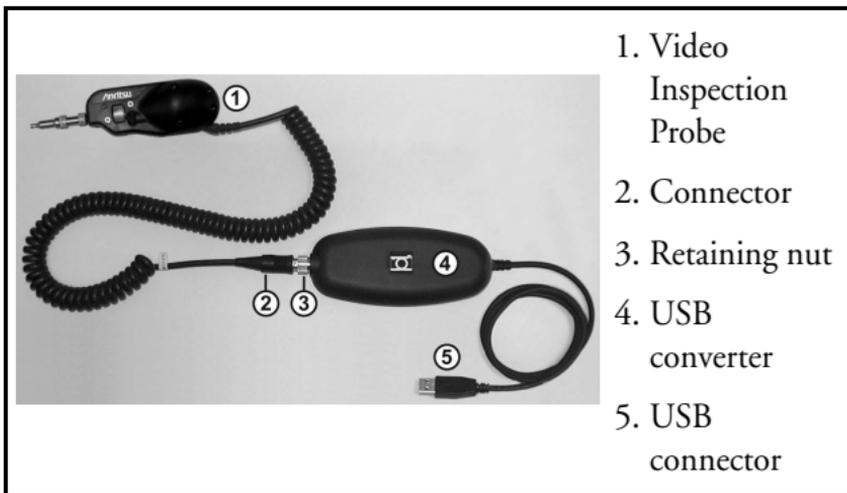

Figure 5-7: VIP Connected to USB Converter
1. Align the connector on the coiled cord of the VIP with the receptacle on the USB converter (see items 2 and 4 in Figure 5-7 on page 5-7). When properly aligned, the connector slides into the receptacle.
2. Use the retaining nut (see item 3 in Figure 5-7 on page 5-7) on the connector to secure it to the USB converter (see item 4 in Figure 5-7 on page 5-7).
2. Insert the USB connector (see item 5 in Figure 5-7) into the USB (Type A) port.